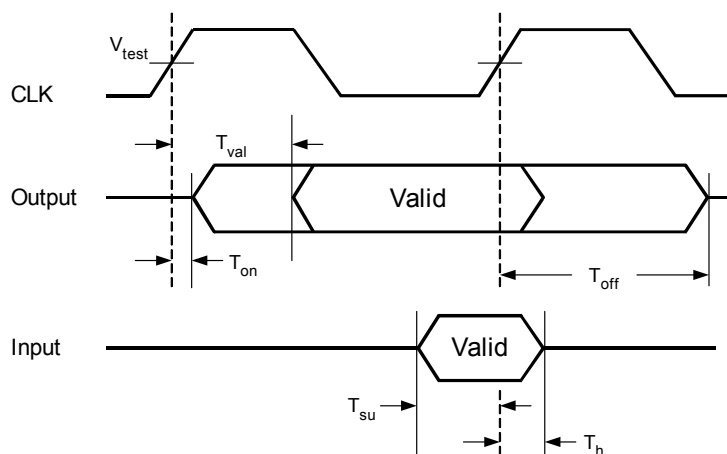

Figure 23-1. PCI/PCI-X Signal Timing Specification
Figure 23-1 illustrates the PCI 6520 signal timing specifications. Table 23-6 delineates the minimum and maximum values, for 66 MHz PCI and 133 MHz PCI-X, for the symbols that appear in Figure 23-1.
**Note:** Refer to PCI-X r1.0b for detailed descriptions of the symbols that appear in Figure 23-1.
Table 23-6. 66 MHz PCI and 133 MHz PCI-X Signal Timing for Figure 23-1